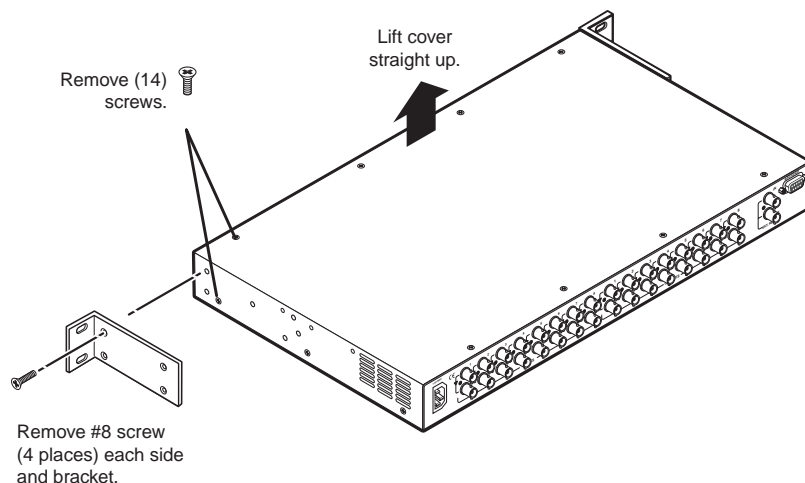

Figure 6-1 — Removing the top cover
3. Remove the fourteen screws (8 top screws and 6 side screws) that secure the top cover of the DXP (figure 6-1).